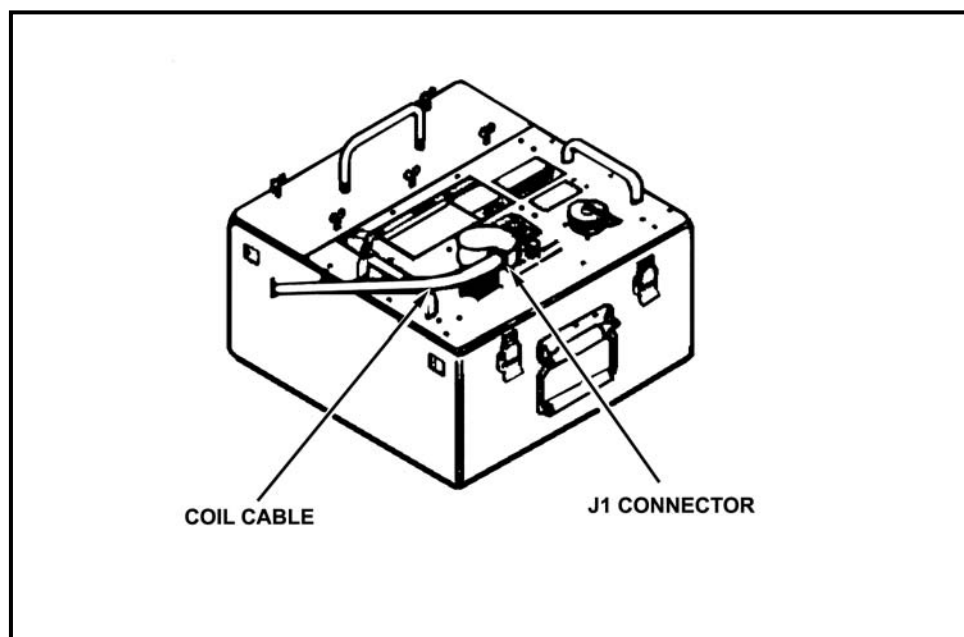

Figure 3-9. Coil cable connector and J1 connector.
f. The gunner connects the coil cable connector by aligning the yellow indexing line on the coil cable connector with the yellow indexing line on the J1 connector on the MGS (Figure 3-9, page 3-9). He turns the nut on the coil cable connector in the direction of the arrow until the red mark (band) on the M1 connector on the MGS cannot be seen. (Do not apply downward pressure on the coil cable connector. This can cause misalignment and bent pins.)